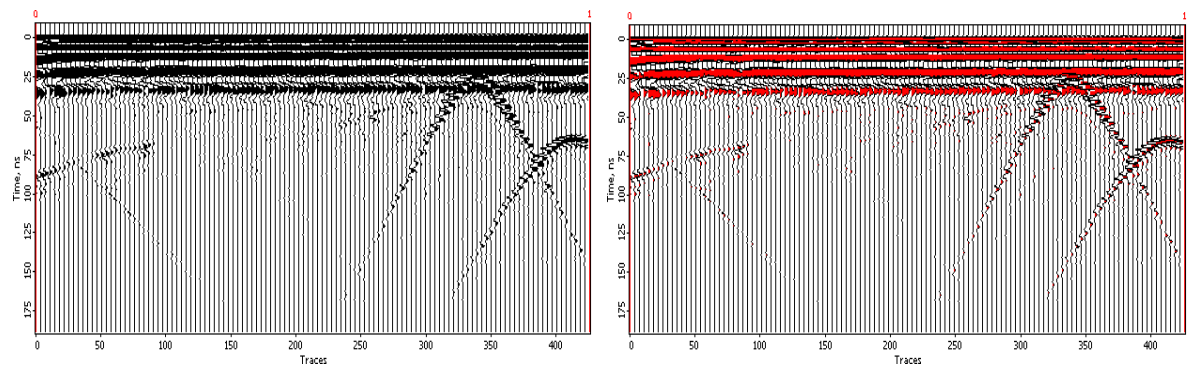

Fig. 4.2. Wiggle plot profile output (black-and-white and colored one).
- **Profile** – or a radargram, this is a set of traces that came to the receiving antenna in the time interval from the moment the sounding pulse was sent until the end of the time range sweep, preset by the operator, containing two-dimensional information about the reflected signals received as a result of some route passing. The profile can contain any number of traces. The horizontal axis of the profile is the X axis in meters. The vertical axis of the profile is the time axis Y with the zero at the moment of the sounding pulse radiation, where the end corresponds to the end of the trace recording (time range sweep). Examples of profiles in various output types are shown in Fig. 4.2 and 4.3. A profile (or some number of profiles) as a file (-s) is the final result of data acquisition. The next steps are data processing (if necessary), its interpretation and printing (if necessary).
- **Wiggle plot** – is a method of the profile output, where traces are located vertically at constant distance from each other. The trace (or an average group of traces) drawing is made by a curved line, which is deviating from the trace axis line from side to side, depending on the amplitude of each sample in the trace. In this case, the positive half-waves of the signals are painted with the color corresponding to the maximum positive level of the selected color scale. The wiggle plot output examples are shown in Fig.4.2.